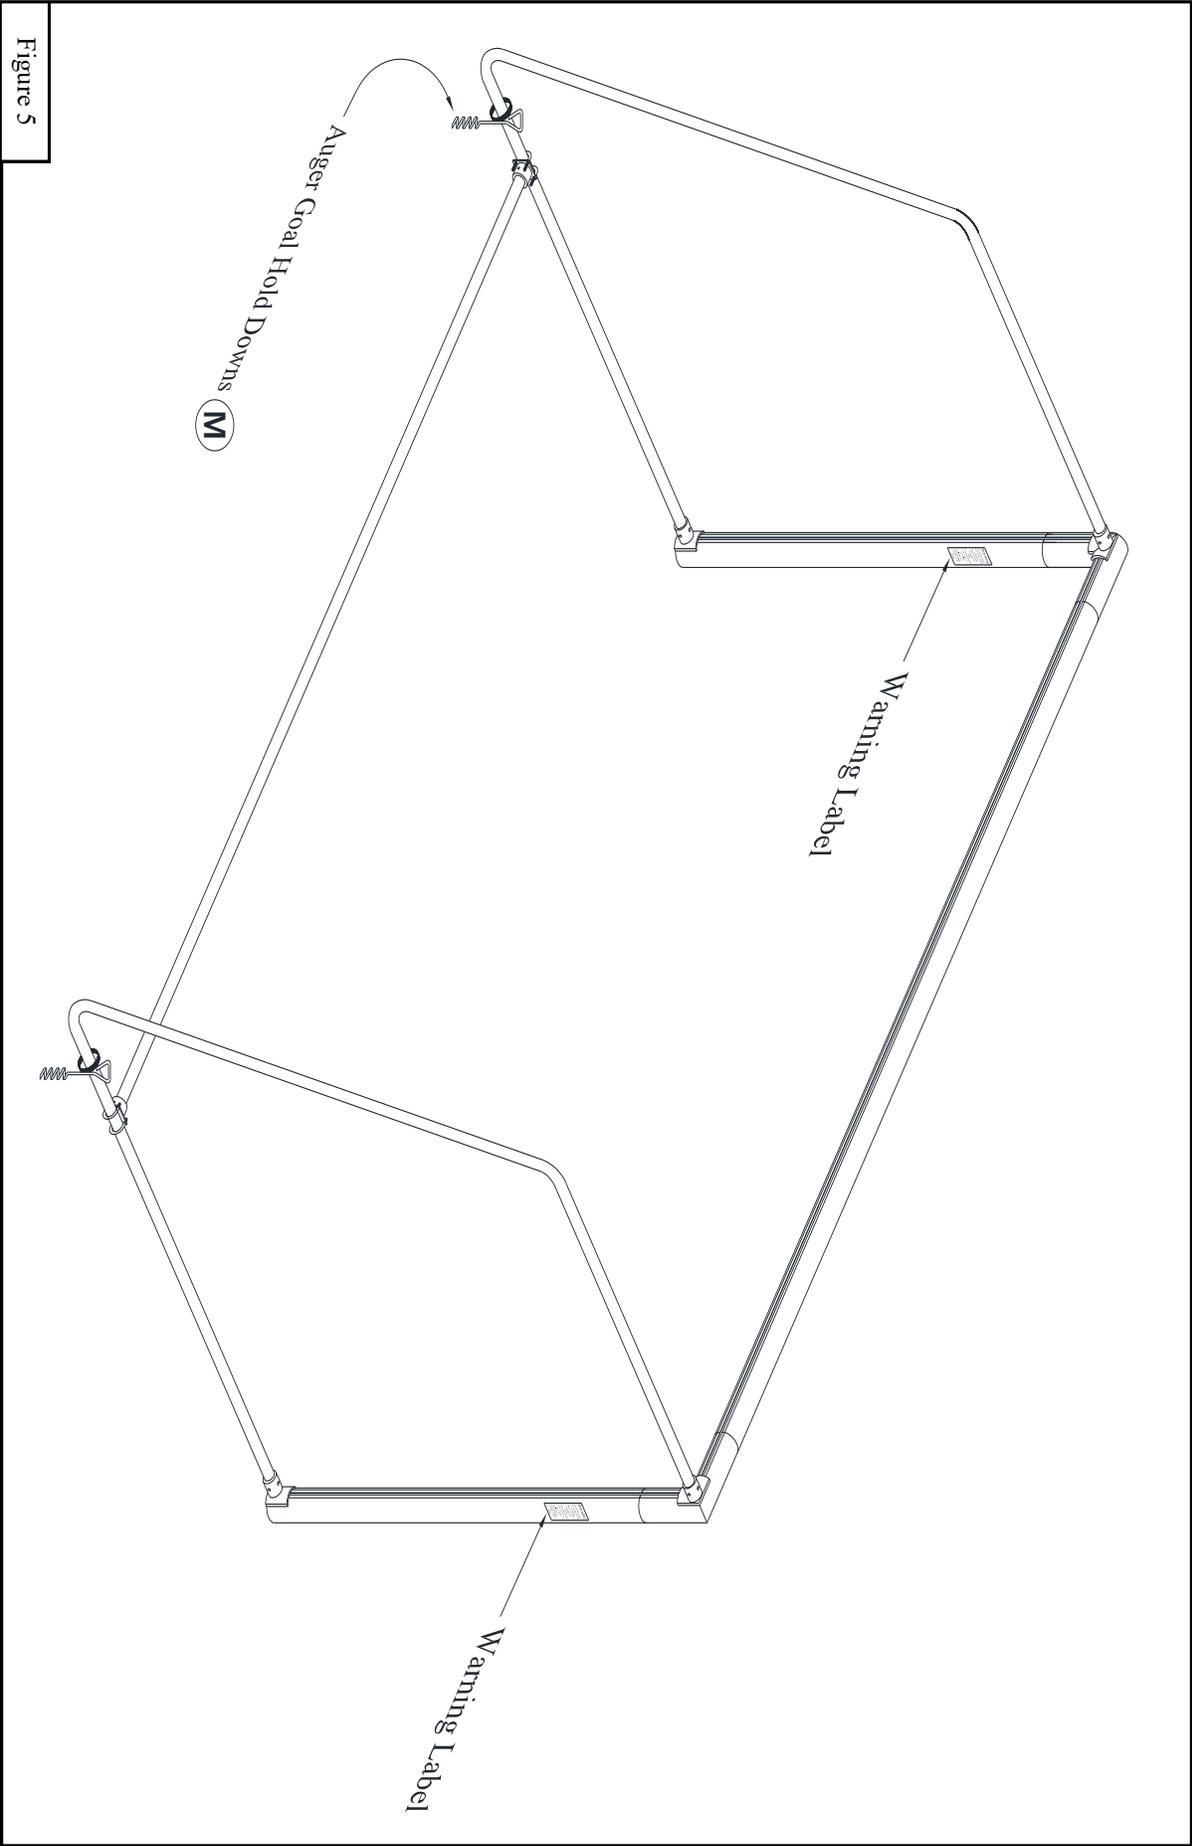

Figure 5
10. Drape the net over the *Backstay* (K) and attach to the *Net Attachment Clips* (P) on the rear face of the goal. Position clips to suit. A rope is woven into the net behind the top front to attach to the left hand and right hand backstays to help support the net. Use roll of *Hook and Loop Net Fastening Strap* (N) to attach the bottom of the net to the lower backstay tubes. If desired cut to length as needed.
11. When the goal is positioned for play, the rear bottom edge of the net can be staked to the ground using the *Net Ground Stakes* (O).
12. Prior to play, the rear of the goal must be secured to prevent accidental tip over. If your goal is being used on an artificial turf that is not compatible with the *Auger Goal Hold Downs* (M), goals must be weighted with rear ballast bags or by other methods. Consult a Bison Product Specialist for options.
13. Position the *Auger Goal Hold Downs* (M) near the rear radius of the left hand and right hand backstays. Once the augers are fully rotated into the ground, clip the chain around the side of the backstays. See Figure 5.